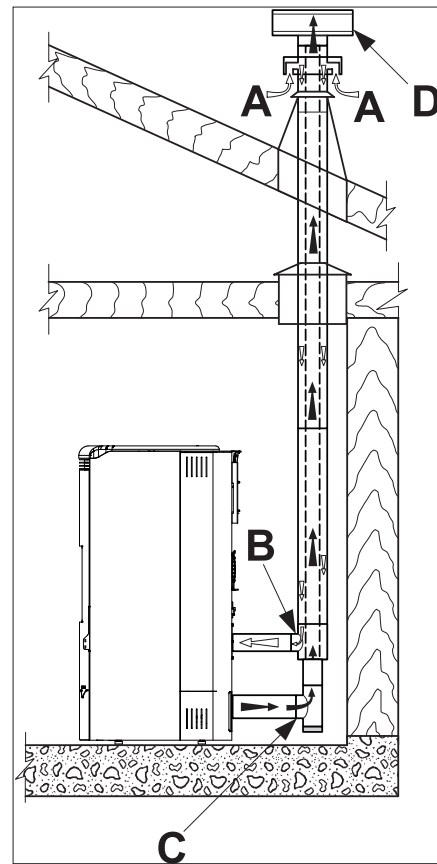

Fig. 5.4c
- channel the combustion air using a coaxial exhaust pipe for the expulsion of the fumes and withdrawal of the air; therefore it is not necessary to create a classic air intake in the room (fig. 5.4c A, B = Air inlet C, D = Fume outlet);